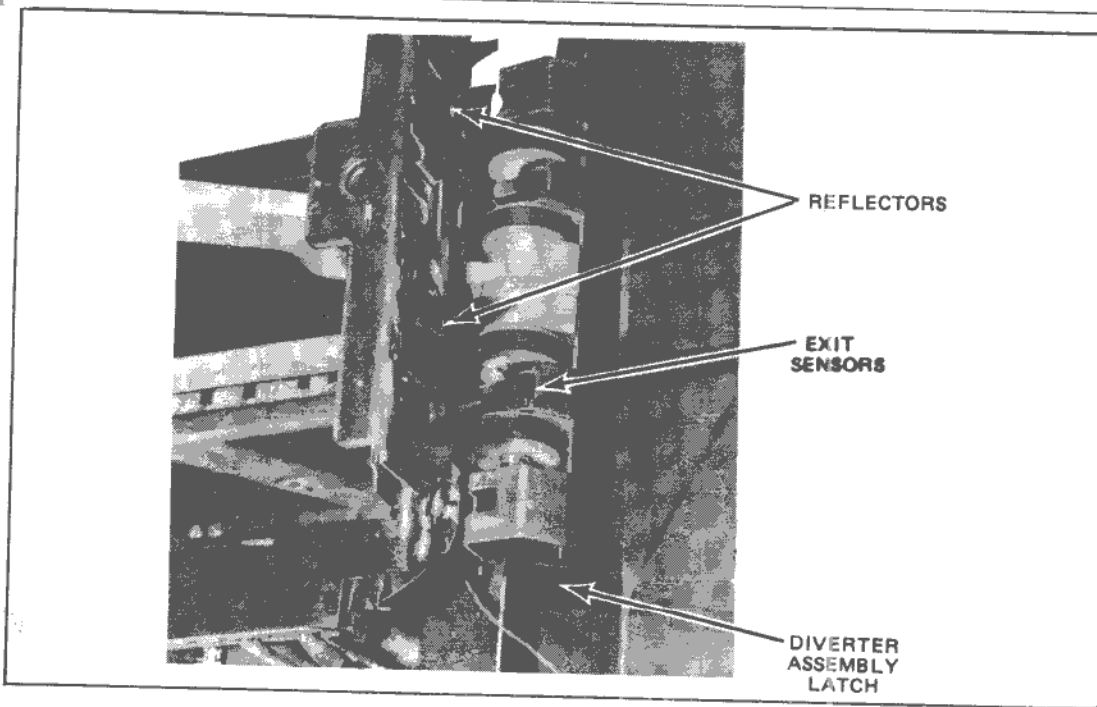

Figure 3-21. Diverter Assembly
1. Remove the currency cassettes. Release the two Diverter Assembly Latches and lift the Diverter Assembly so that it rests in an upright position (refer to figure 3-21).